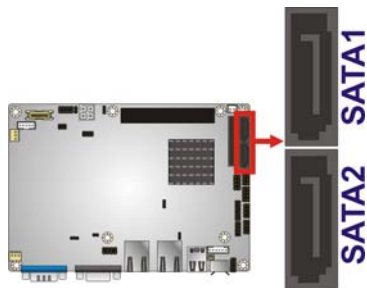

Figure 3-16: SATA Drive Connector Location
- CN Location:** See Figure 3-16